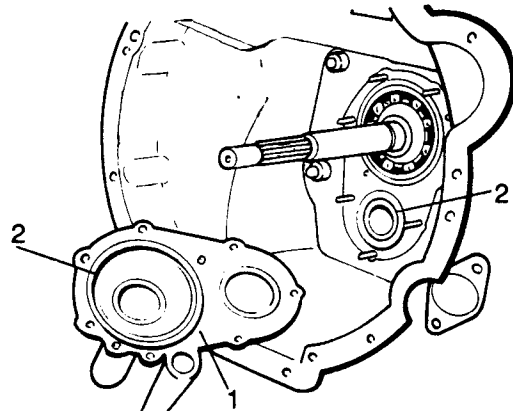

Fig H1.31
- (5) Refer to Fig H1.31. Apply a film of Hermetical 600 on both faces of the gasket (1).
- (6) Position the bearing adjusting washers (2) of the primary shaft and the front bearing of the layshaft.
- (7) Fit the cover and tighten the nuts to a torque of 20 to 25 N.m.